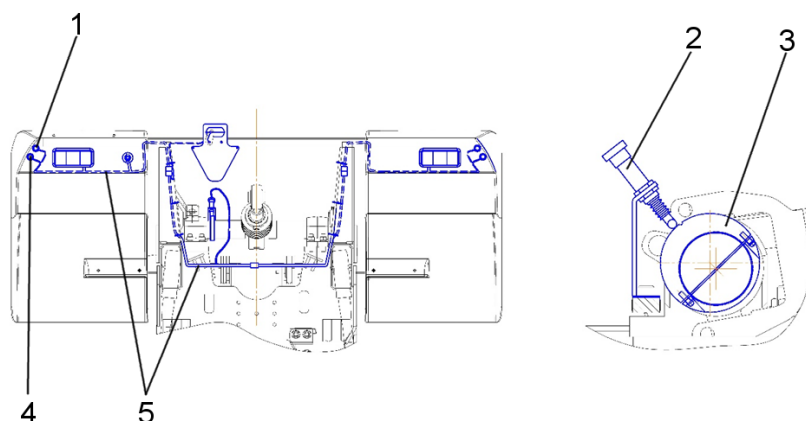

Fig. 4 Linkage control with remote buttons and installation of position sensor
Linkage is operated by the control panel (fig. 2) located at the hydraulics board in the tractor cabin and by remote buttons 1 and 2 (fig. 4). When MI electronic hydraulic control system has faults, the diagnostic alarm device 4 (fig. 2) informs about the fault and, if required, the MI control system operation is blocked.
- use handle 9 (fig. 2) to set proper control method depending on the nature of operation; Handle clockwise rotation all the way in - positional control mode; counterclockwise rotation all the way in - power control mode; in between - combined control. Preferred is the combined control mode. Since the tractor has only a position sensor (fig. 4), handle 9 shall be set to "POSITIONAL CONTROL" position (all the way in clockwise)
Rear linkage is normally controlled by remote buttons with the purpose of attachment of agricultural machines and implements. Rear unit can be lifted and lowered with remote buttons installed on wings of the rear wheels in any control modes: handles 2, 5, 6, 7, 9 (fig. 2) can stay in free position as the cabin control system is blocked in this case. To lift the linkage press and hold any button 1 (fig. 4) at the right or left wing. To lower the linkage down, press and hold any button 4 at the right or left wing.